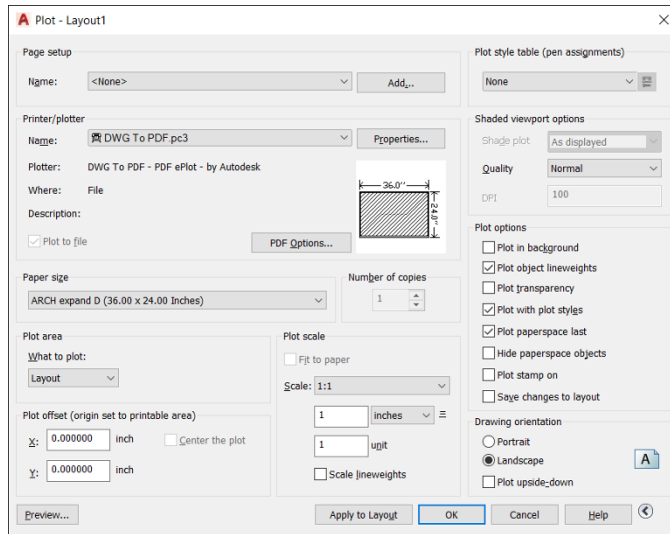

FIGURE 16-6: Settings for plotting a paper space layout.
The Plot dialog box appears with the name of the layout to be plotted displayed on the title bar. In Figure 16-6, we're plotting a layout named D-Size Layout.
5. In the What to Plot drop-down list, choose Layout, as shown in Figure 16-6.
7. In the Plot Scale area, select 1:1 from the Scale drop-down list, as shown in Figure 16-6.
One primary advantage of using layouts is that you don't need to know about drawing scale in order to plot the drawing — hence the name *paper space*. Figure 16-6 shows the proper settings for plotting a layout.